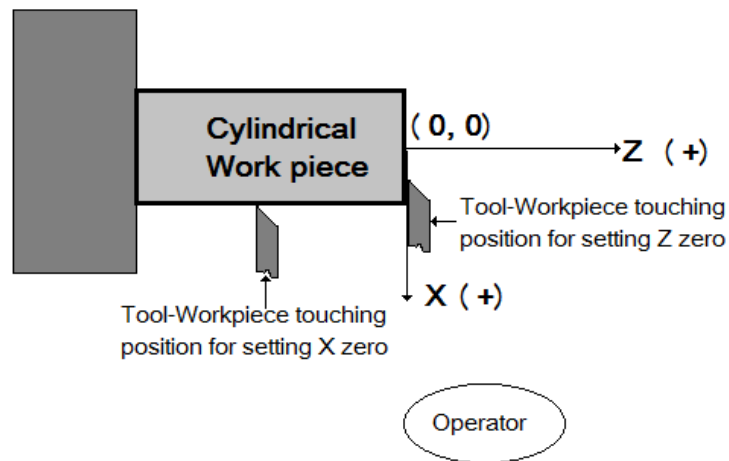

Fig.1
Procedure: To setup the workpiece zero point refer to Fig.1 and the following steps should be followed
3. Now in jogging mode touch the workpiece by the tool as shown in Fig. 1 and set respective axes to zero. For X axis, input the diameter of the workpiece in touchoff dialog box and the machine will automatically set X axis to zero position.